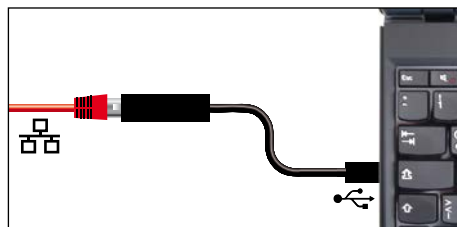

Fig. 7 Converter USB to Ethernet
- ▶ USB to Ethernet converter (Fig. 7). Makes it possible to connect the Ethernet connection interface (see page 12) to the USB port of a computer / laptop.